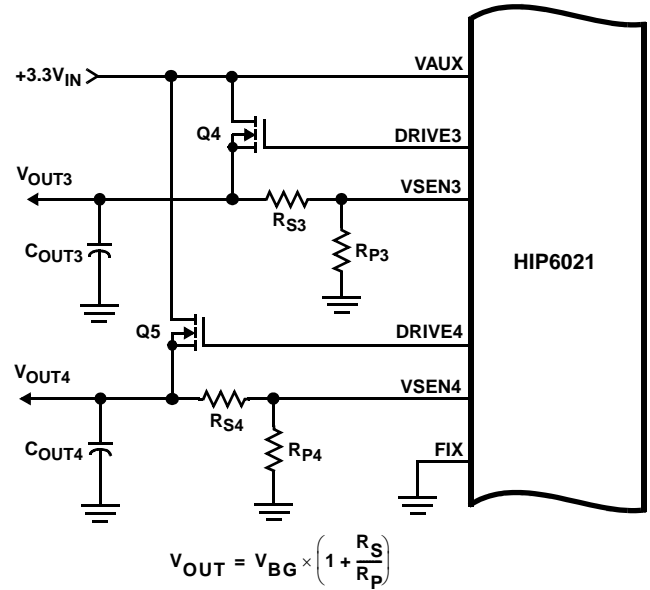

FIGURE 7. ADJUSTING THE OUTPUT VOLTAGE OF OUTPUTS 3 AND 4
The GTL bus voltage (1.5V, OUT3) and the chip set and/or cache memory voltage (1.8V, OUT4) are internally set for simple, low-cost implementation in typical Intel motherboard architectures. However, if different voltage settings are desired for these two outputs, the FIX pin provides the necessary adaptability. Left open (NC), this pin sets the fixed output voltages described above. Grounding this pin allows both output voltages to be set by means of external resistor dividers as shown in Figure 7.